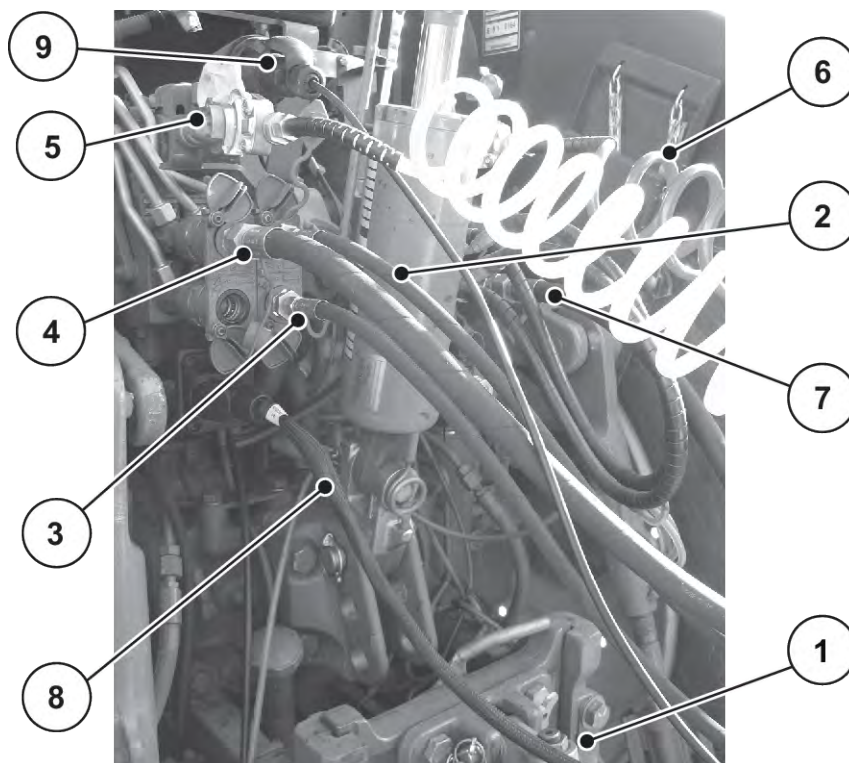

Fig. 26: Order of connecting the machine lines to the tractor
See Fig. 26
- ▶ Observe the order in which the components are connected: See *Fig. 26 Order of connecting the machine lines to the tractor*
- ▷ See *Fig. 26 Order of connecting the machine lines to the tractor*.